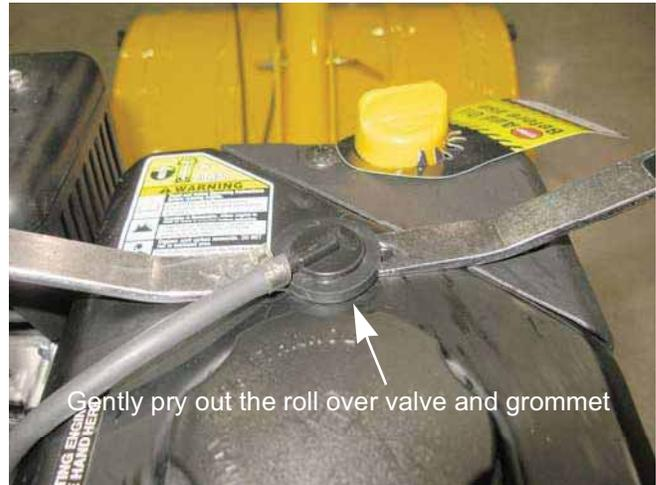

Figure 4.19
1. Gently pry the roll over valve out of the fuel tank. See Figure 4.19.